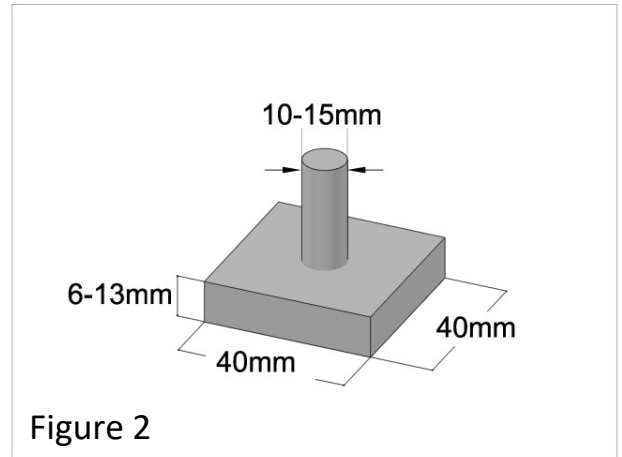

Figure 2
- The load will be applied from above by means of a 40. mm square by 6. mm to 13. mm thick plate. A 10. mm to 15. mm diameter loading rod will be attached to the center of the plate (**see Figure 2**). The plate will be horizontal, have a flat bottom and will not pivot on the loading rod.